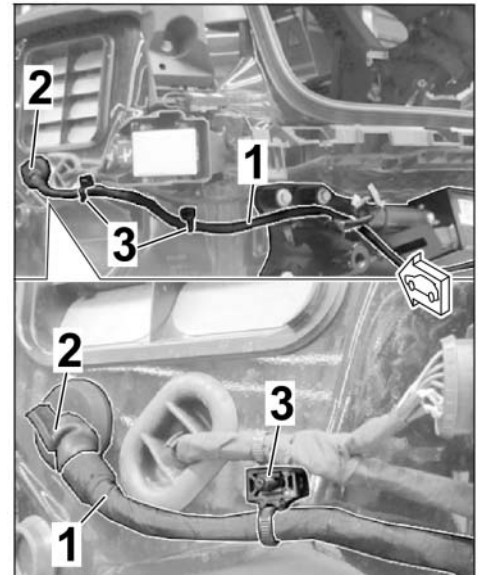

Figure 7
2.2.3 Install tie-wraps for wire harness (2 x) on threaded bolts on the outside of the vehicle. ⇒ *Figure 7*